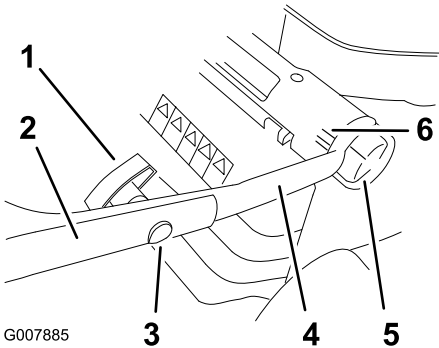

Figure 3
1. Loosen the handle height adjustment knobs and rotate the lower handle toward the rear of the lawn mower until it seats into one of the handle height settings as shown in Figure 3. To set the handle height, refer to Adjusting the Handle Height.
handle knobs as shown in Figure 3. **Tighten the handle knobs securely.**
You can set the handle to 3 height settings: high, medium, and low (Figure 3). Select the handle height setting most comfortable for you.